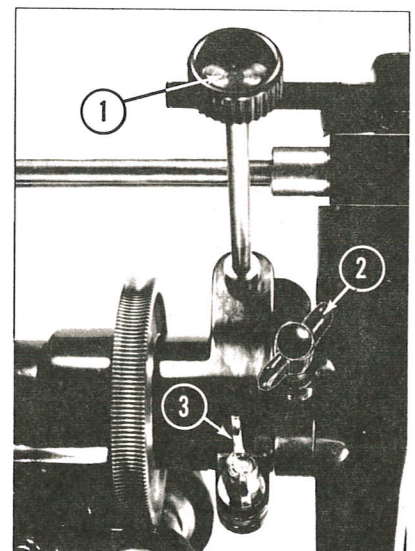

Fig. 2: Right Ascension Controls of Photo-Equatorial Models
- F) For Photo-Equatorial models (refer to Fig. 2): An added feature on these models is the dual clamping system on the polar axis. In addition to the auxiliary right ascension control rod and the fast motion clamp (2-3), a short wing screw (2-2) is provided. The observer will find that the auxiliary control (2-1) is sometimes difficult to reach when the telescope is pointed in certain directions. By loosening both the clamp screws (2-2) and (2-3) simultaneously, the entire clamping collar may be repositioned about the polar axis. Loosening either clamp individually will permit fast motion about the polar axis.